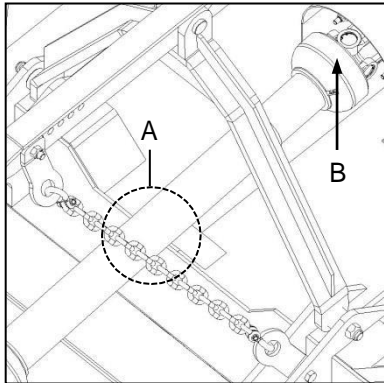

Fig. 3 (F60-350V)
- ✔ Following installation of the PTO driveshaft, lift the implement to the appropriate transport height and ensure that there is no contact between the PTO driveshaft and the implement (Fig. 3-A/4-A).
- ✔ Ensure that universal joint operating angles are not exceeded, and that over-compression or over-extension of the PTO driveshaft is prevented (Fig. 3-B/4-B).
- ✔ Nadat die kragtakkeras geïnstalleer is, lig die implement tot op die gepaste vervoerhoogte en verseker dat daar geen kontak tussen die kragtakkeras en die implement is nie (Fig. 3-A/4-A).
- ✔ Verseker dat kruiskoppelingwerkshoeke nie oorskry word nie en maak seker dat die kragtakkeras nie te veel saamgepers of oorverleng is nie (Fig. 3-B/4-B).